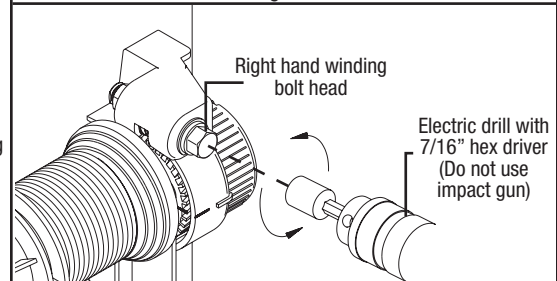

Fig. 2
**Step 2:** Starting on the right hand side and using an electric drill (high torque/ gear reduced to 1300 rpm preferred) with a 7/16" hex head driver, unwind the right hand winding bolt head counterclockwise (Fig. 2) and count the number of turns the mark on the drive gear passes the adjacent mark on the end bracket. Referencing the chart below, by door height, stop unwinding the spring once the counted turns have reached the listed number of turns. For double springs, repeat the same process on the left hand side.